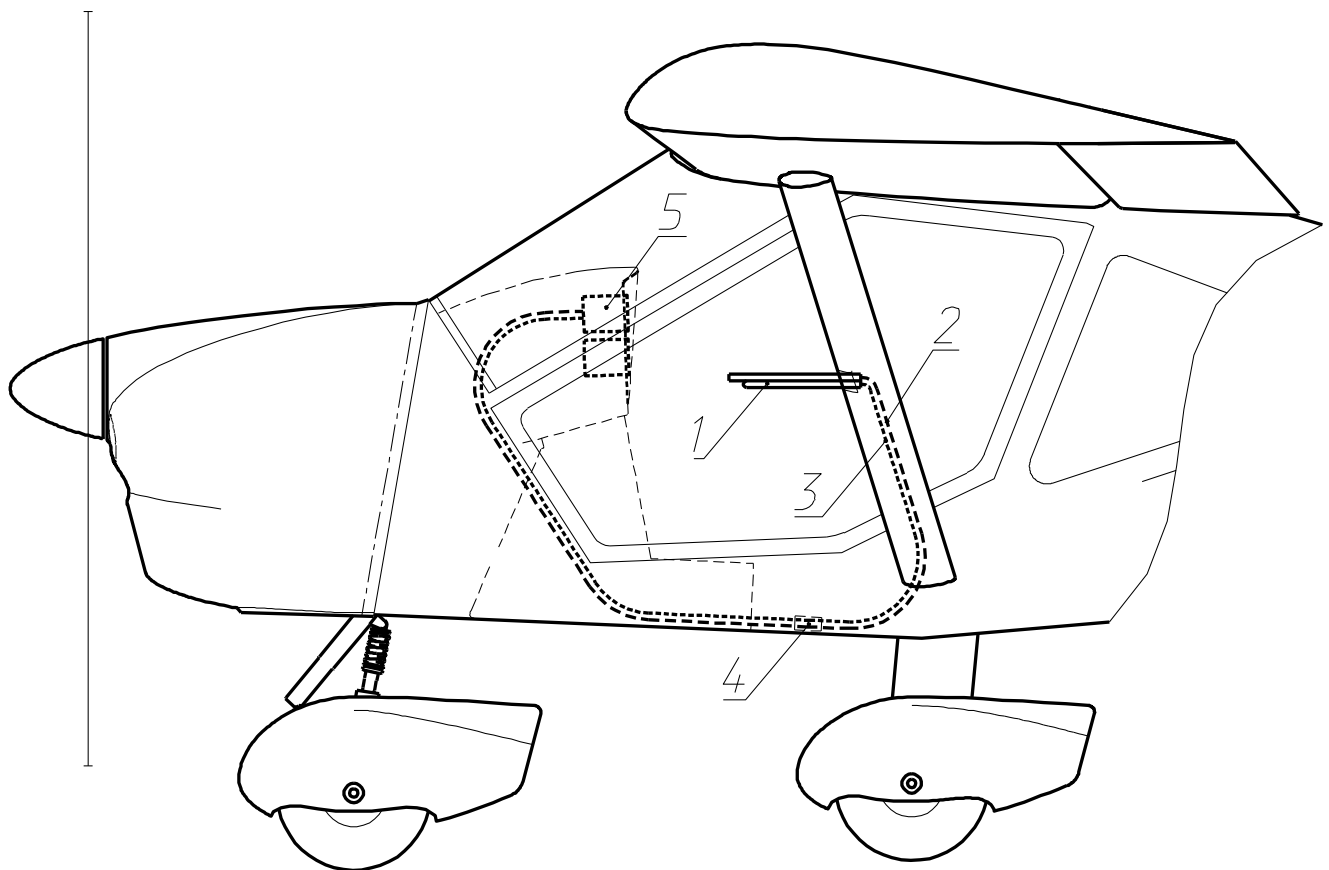

Fig. 13. Full and static pressure system
This system supplies the full (dynamic) and static pressure of the outside air to the instruments measuring the flight parameters: airspeed, rate of climb and altitude. The system consists of the full and static pressure probe (1) and full (2) and static (3) pressure lines connecting the probe to the instruments (see **Fig. 13**). Full and static pressure lines have joints (4) used to disconnect the lines when the left wing is removed during aircraft disassembly.